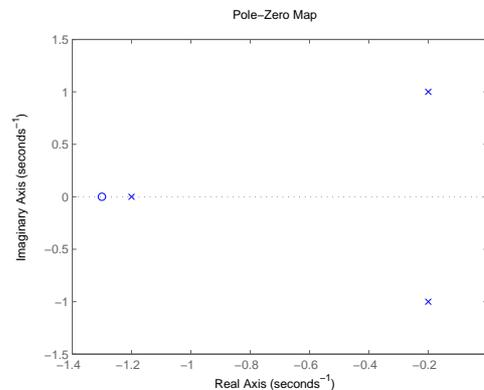

Figure 13.1 Pole-zero map of the system in problem 13.1
13.1 Consider a SISO system for which the pole-zero map is given in figure 13.1.